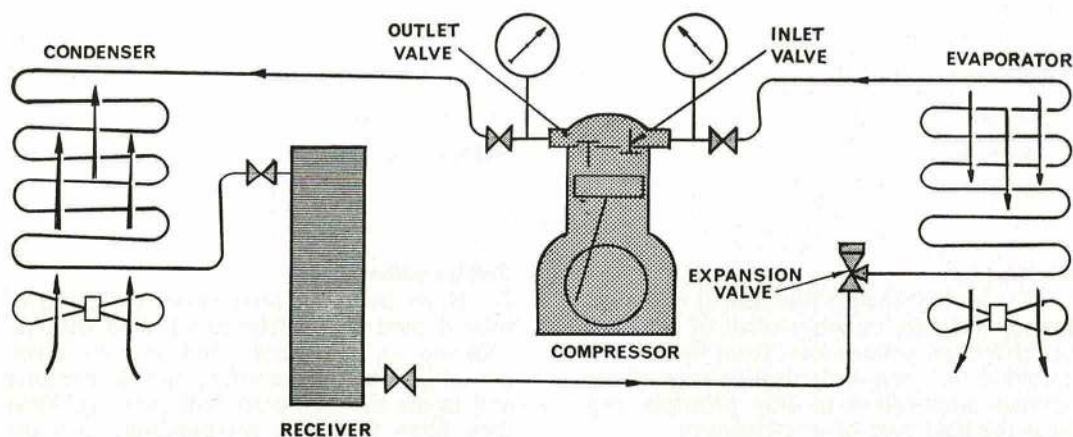
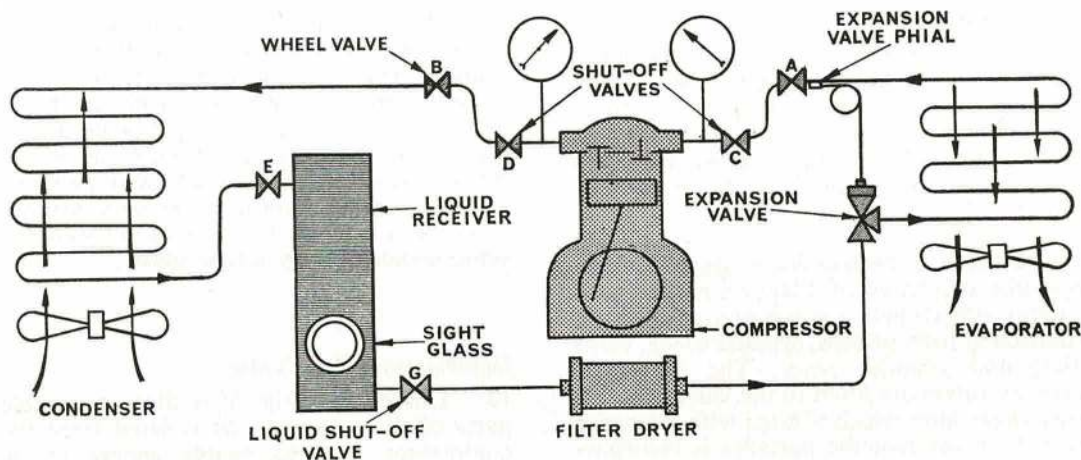
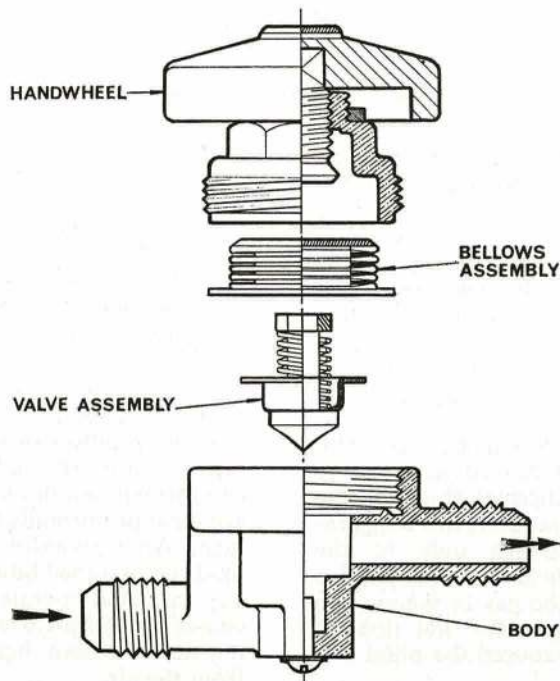

Fig. 2. CYCLE DIAGRAM
Fig. 3. TYPICAL CIRCUIT
Fig. 11. WHEEL VALVE
5. The actual sequence of operations that occur in a refrigerator can be followed from Fig. 2:
9. An electric motor or internal combustion engine is fitted with a centrifugal clutch pulley through which the drive is imparted to the compressor by means of V-belts. The purpose of the fan attached to the clutch pulley is to force air through the condenser unit. The refrigerant charge is contained in the receiver, and piping is used to connect the compressor, condenser and other components fitted in the circuit. It will be noted that included in Fig. 3 are additional components to those shown in Fig. 2, and which were not necessary for consideration of the basic cycle of operations.
27. Two of these valves (Fig. 11) are shown "A" and "B" fitted in the circuit illustrated at Fig. 3. They are extra valves that are introduced into the circuit for the purpose of simplifying normal starting-up and shutting-down procedures. They are sometimes referred to as packless shut-off valves.